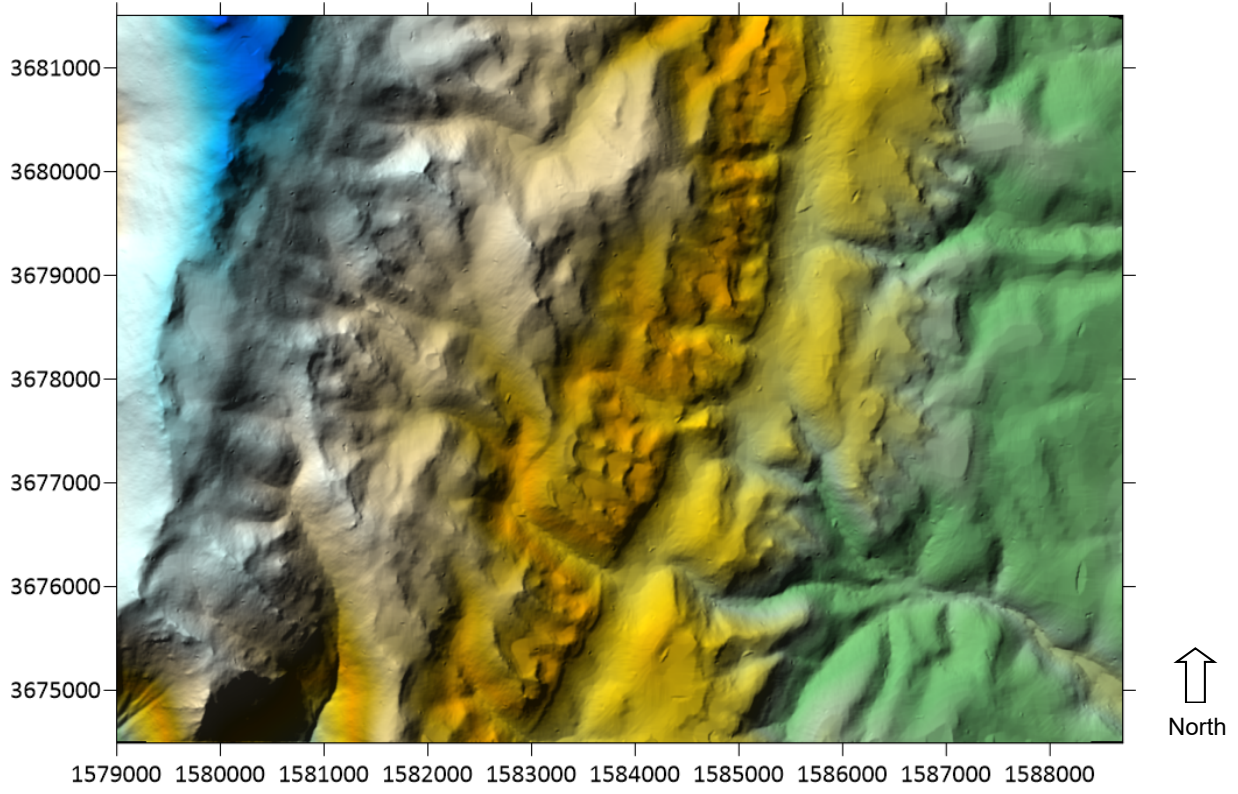

Figure 1 – Color Relief Map from DEM
1. We created a digital elevation model of the terrain analyses using a 2-foot contour map derived from LiDAR data. (Figure 1).